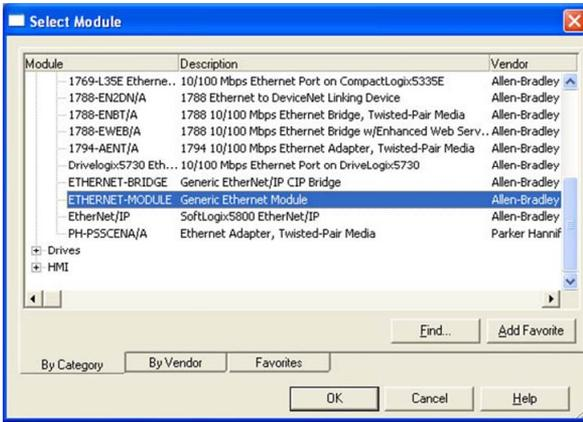

Figure 77: Adding a New Generic Ethernet Module
- 3) Choose “Generic Ethernet Module” in the Select Module dialog box and click “OK”. Refer to Figure 77.